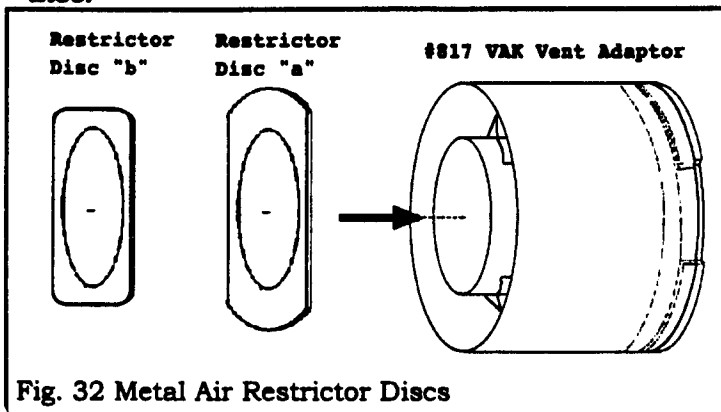

Fig. 32 Metal Air Restrictor Discs
9.1.1.2 On Natural gas appliances insert the square metal restrictor (Fig.32 type "b") into the vent adapter, before fitting the vent adapter (817VAK) to the appliance. The disc is supplied with kit #819ARK.
9.1.2.2. On Natural gas appliances, insert the square metal restrictor (Fig.32 type "b") into the vent adapter, before fitting the vent adapter (817VAK) to the appliance. The disc is supplied with kit #819ARK.